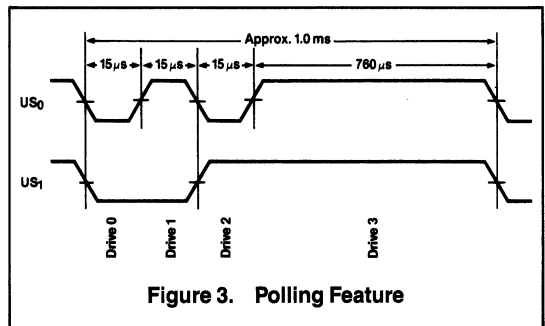

Figure 3. Polling Feature
After reset has been sent to the FDC72C65/FDC72C66, the unit select lines  $US_0$  and  $US_1$  will automatically go into a polling mode. In between commands (and between step pulses in the Seek command) the FDC72C65/FDC72C66 polls all four FDDs looking for a change in the ready line from any of the drives. If the ready line changes state (usually due to a door opening or closing), then the FDC72C65/FDC72C66 will generate an interrupt. When status register 0 (ST0) is read (after Sense Interrupt Status is issued), not ready (NR) will be indicated. The polling of the ready line by the FDC72C65/FDC72C66 occurs continuously between commands, thus notifying the processor which drives are on or off line. Each drive is polled every 1.024 ms except during the Read/Write commands. When used with a 4 MHz clock for interfacing to minifloppies, the polling rate is 2.048 ms. See figure 3.